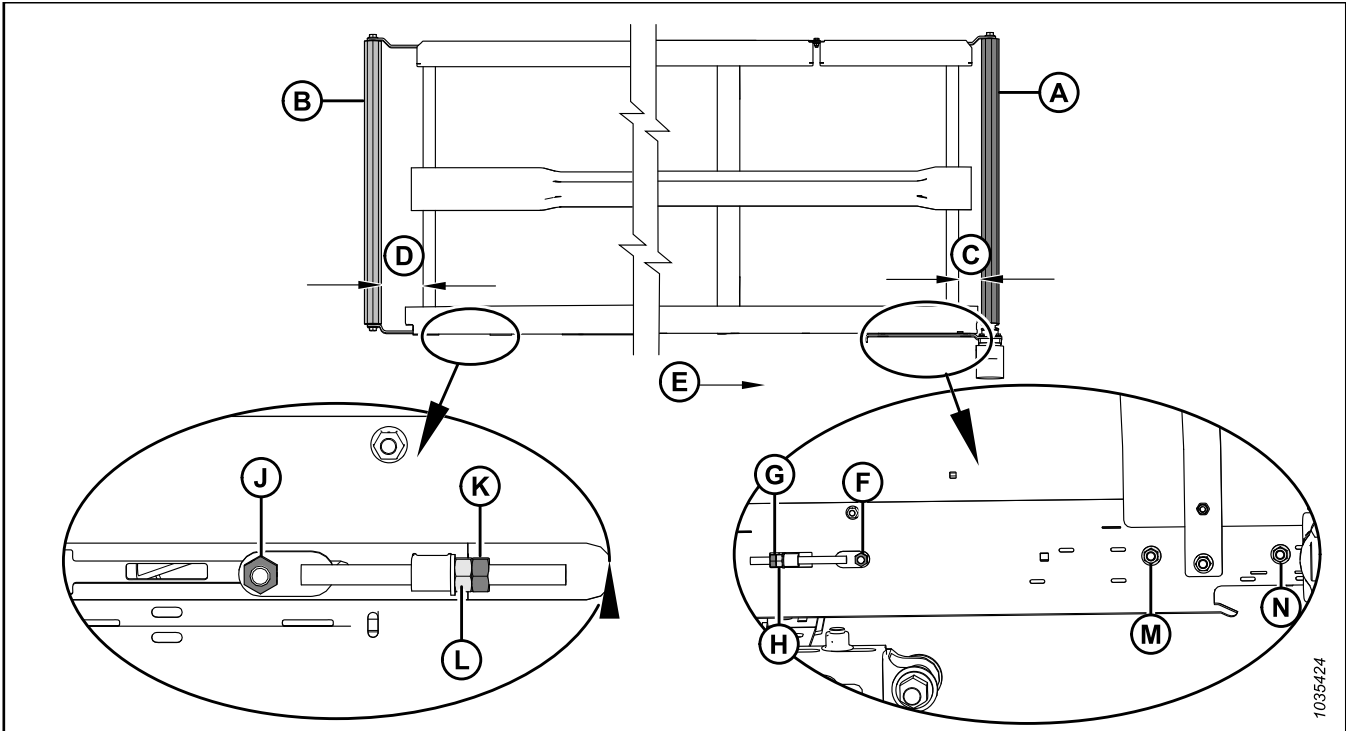

Figure 4.234: Draper Tracking Adjustments – Left Draper
2. Adjust drive roller (A) to change **C** (refer to Table 4.2, page 408 and Figure 4.234, page 408) as follows:
- a. Loosen nuts (F), (M), and (N), and jam nut (G).
- b. Turn adjuster nut (H).
- c. Tighten nuts (F), (M), and (N), and jam nut (G).
3. Adjust idler roller (B) to change **D** (refer to Table 4.2, page 408 and Figure 4.234, page 408) as follows:
- a. Loosen nut (J) and jam nut (K).
- b. Turn adjuster nut (L).